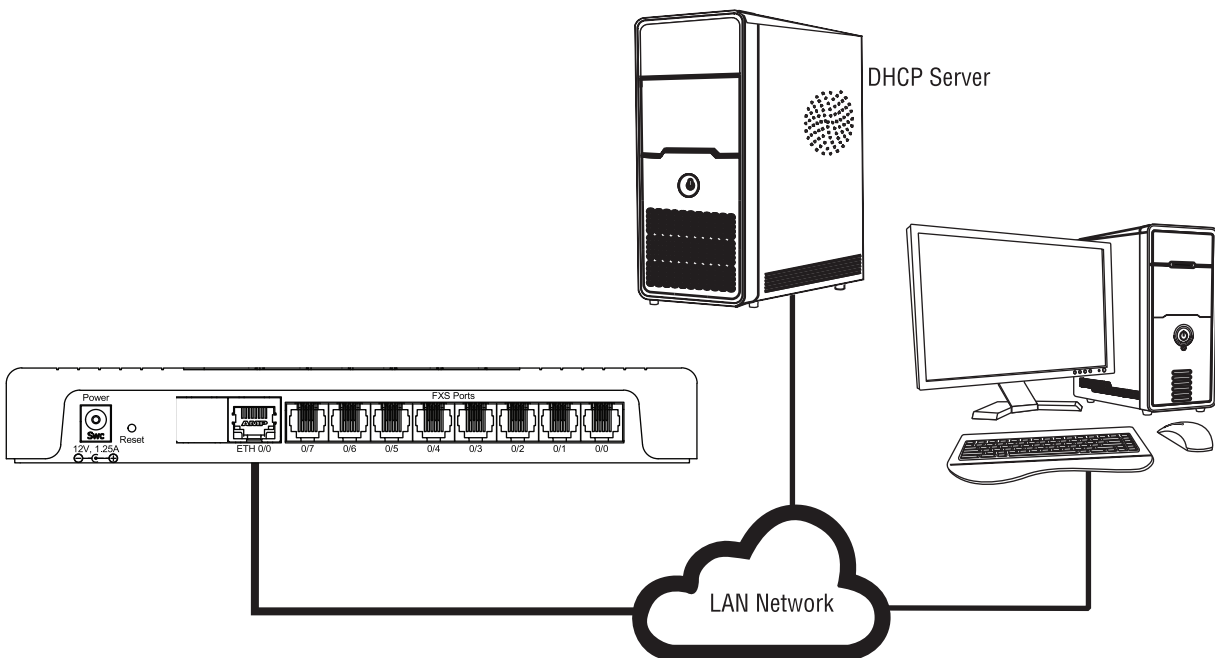

Figure 14. Connecting SmartNode device and PC to a LAN with DHCP server.
2. The SmartNode device is connected to a local area network (LAN) that has a DHCP server running which assigns an IP address to the SmartNode device (see figure 14). Using the SN Discovery tool, the SmartNode device's IP can be determined.